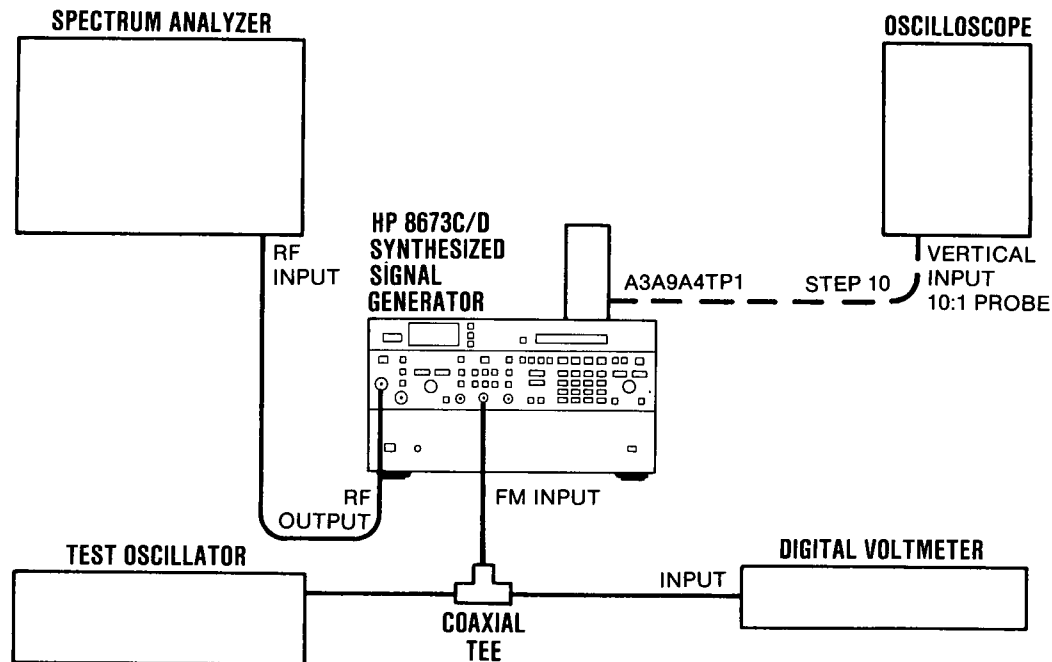

Figure 5-12. YTO Loop Offset and FM Overmodulation Adjustment Test Setup
4. Connect the equipment as shown in Figure 5-12. Connect the Signal Generator's mains power cord and set the LINE switch to ON.